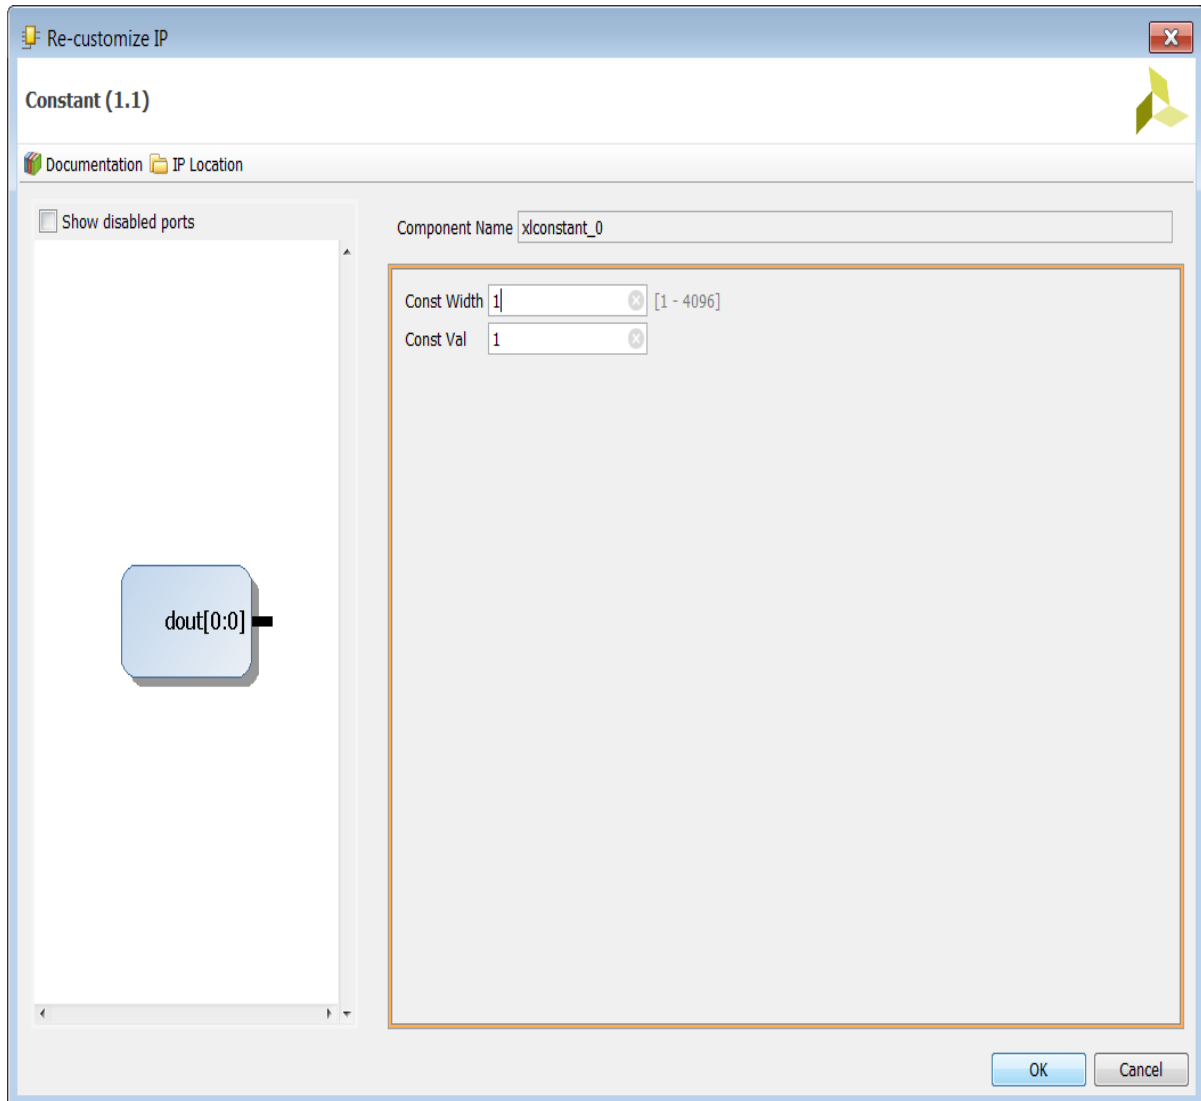

Figure 9-20: Constant IP Properties
- d. Double-click the Constant IP symbol (Figure 9-20) and verify that **Const Width** and **Const Val** are set to 1.